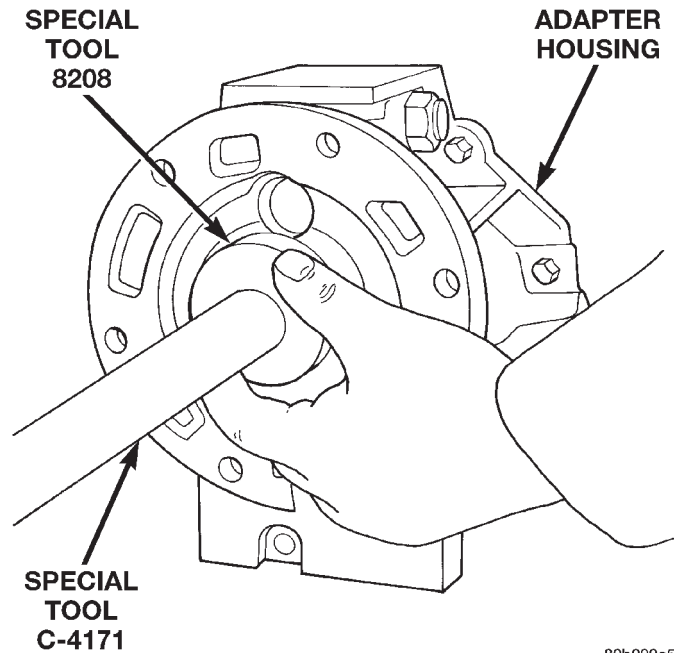

Fig. 15 Install Adapter Housing Seal
- (1) Clean seal bore of adapter housing of any residual sealer material from original seal.
- (2) Using Tool Handle C-4171 and Seal Installer 8208, install new seal so that the seal is located 0 ± 0.2 mm (0 ± 0.008 in.) to the seal bore face of adapter housing (Fig. 15).
- (3) Install transfer case.
- (4) Check and add fluid to transmission as necessary. Refer to the Recommended Lubricant section for proper fluid requirements.
- (5) Lower vehicle.